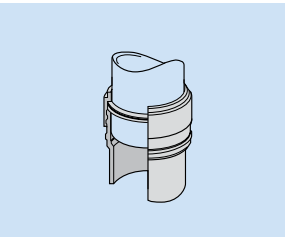

Fig. 71
- Clean pipe with 9101 Cleaning Fluid (Fig. 71).